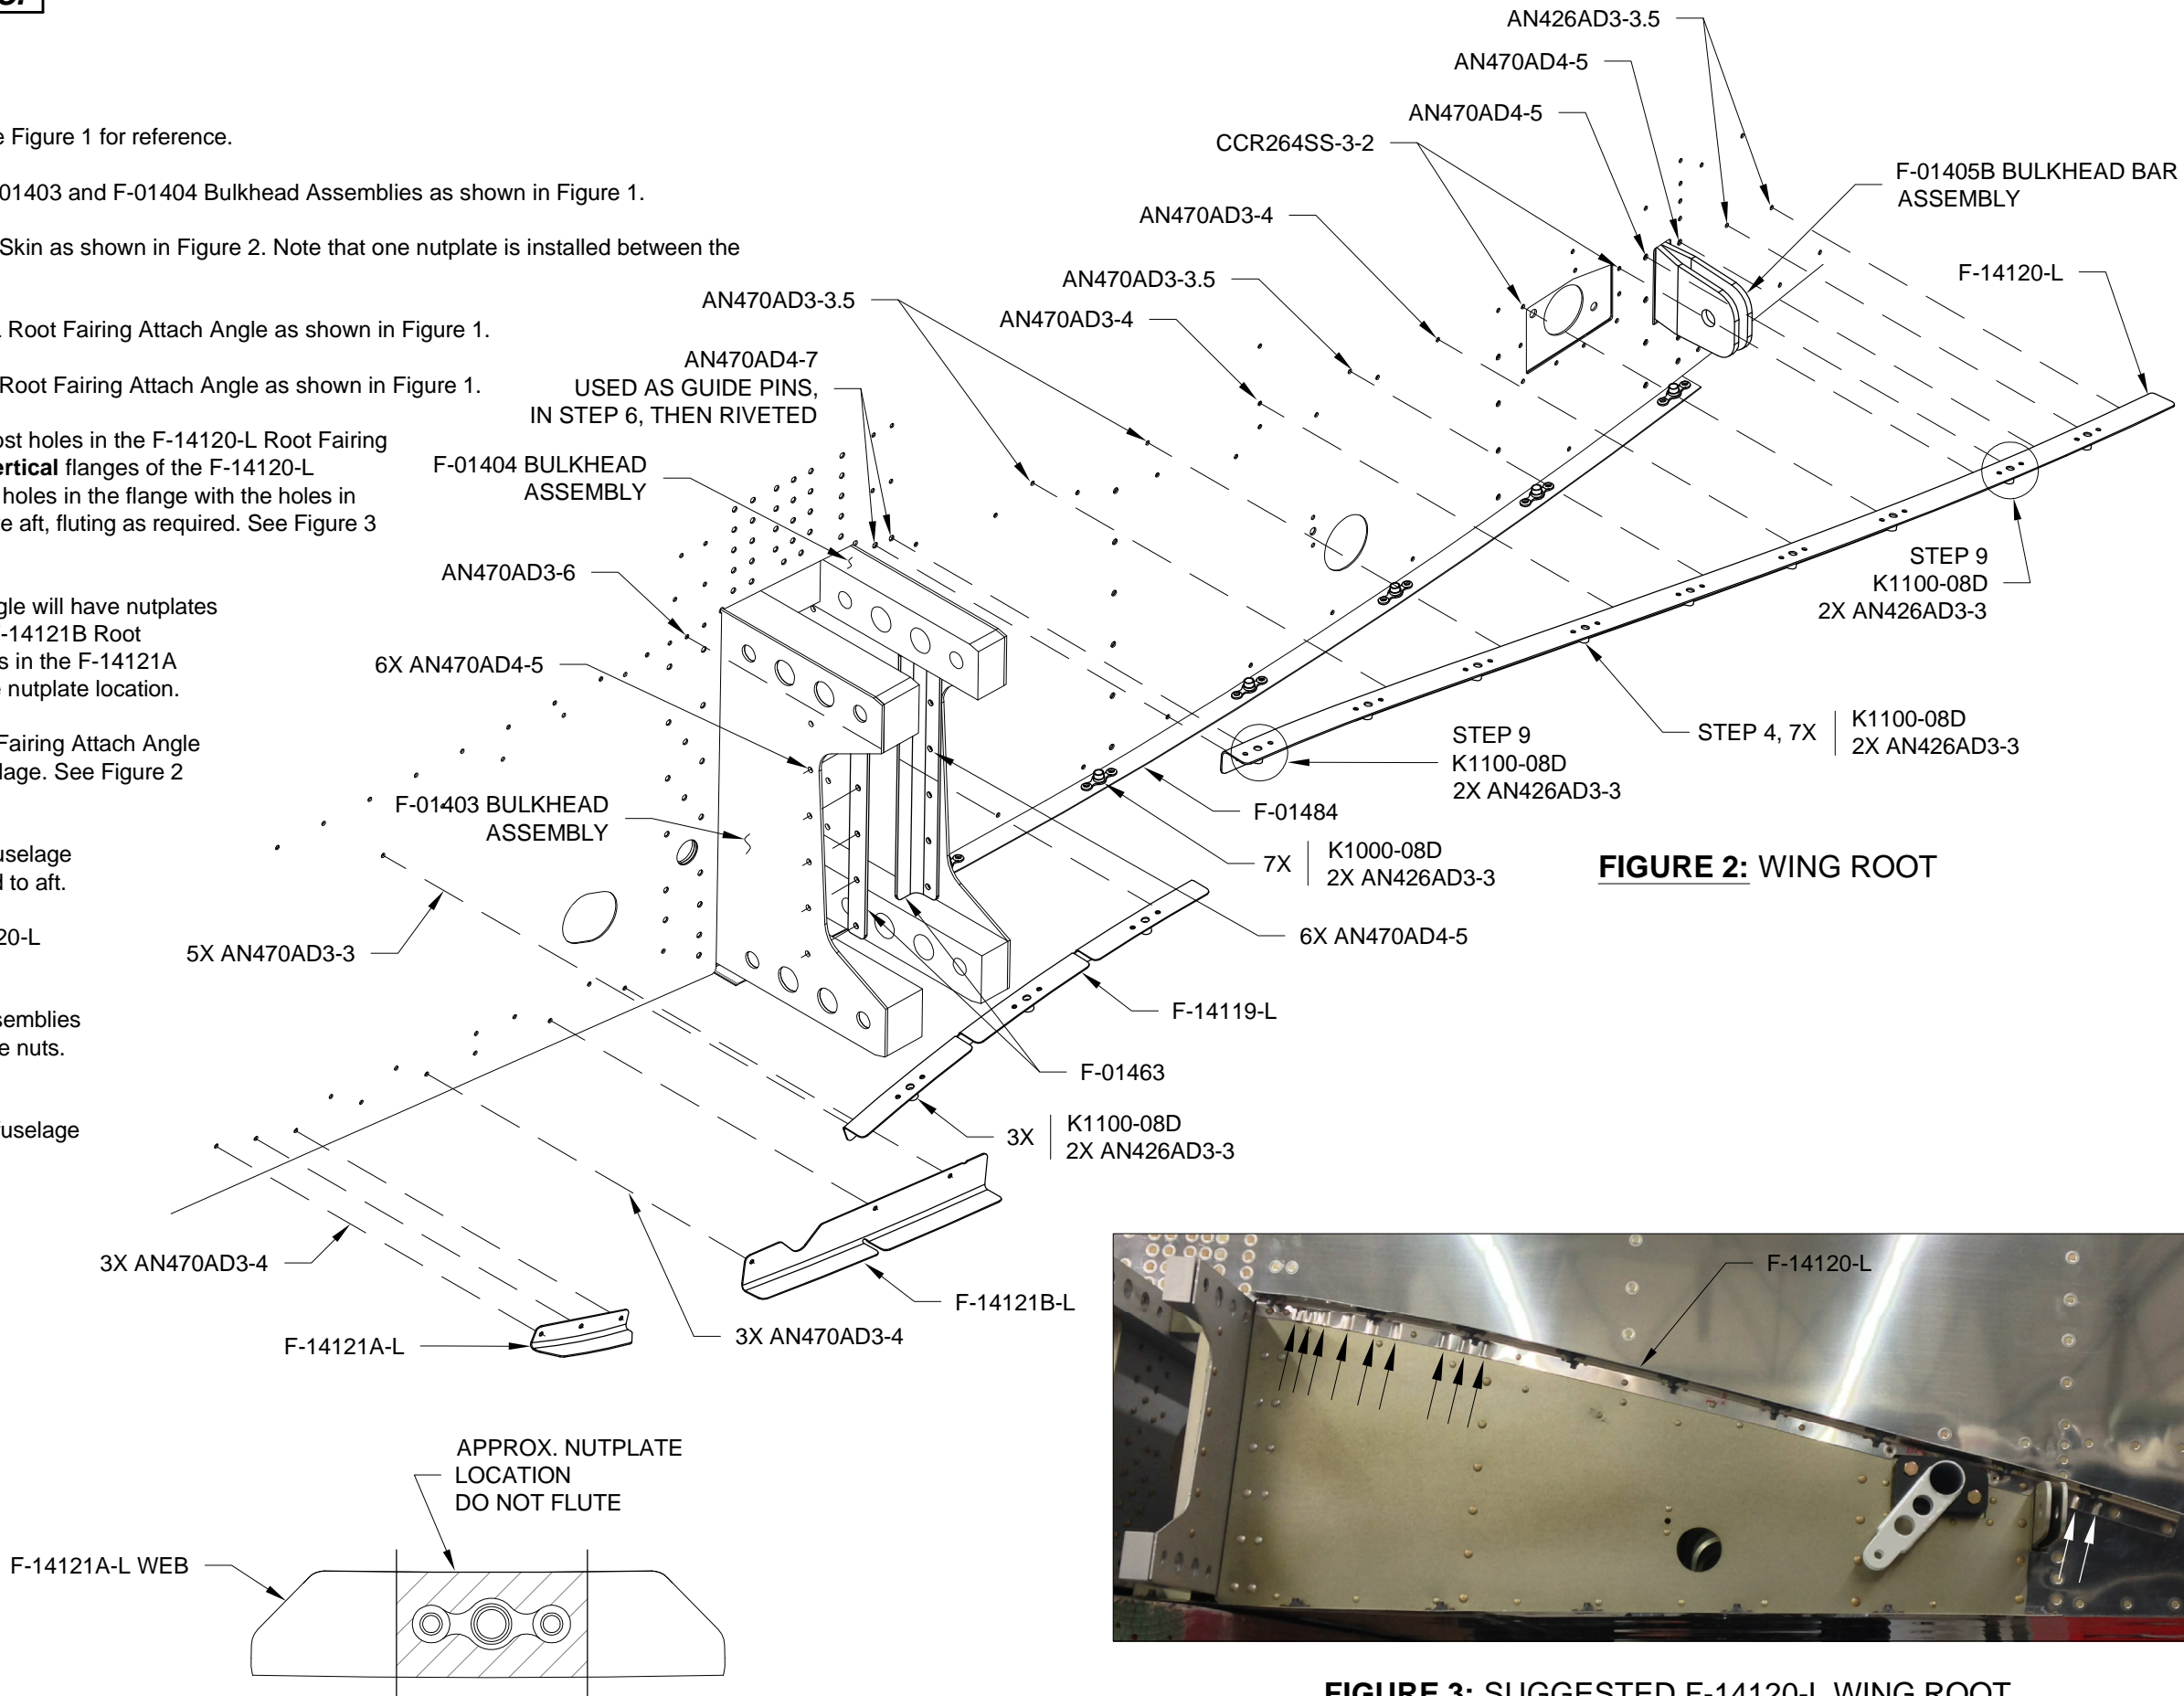

FIGURE 1: WING ROOT FAIRING ATTACH ANGLE FLUTING
Step 9: Rivet the remaining nutplates to the F-14120-L Root Fairing Attach Angle as shown in Figure 1.
Step 10: Reinstall the F-01405B Bulkhead Bar Assemblies as shown on Page 25-02, Figure 1. Fully torque the nuts. See Section 5.20 for proper torque values.
Step 11: Reinstall and fully torque the bolts in the fuselage as shown on Page 29-03, Figure 1 and Figure 2. See Section 5.20 for proper torque values.
Step 1: Separate four F-01405N Seat Back Adjustment Guides as shown in Figure 1.